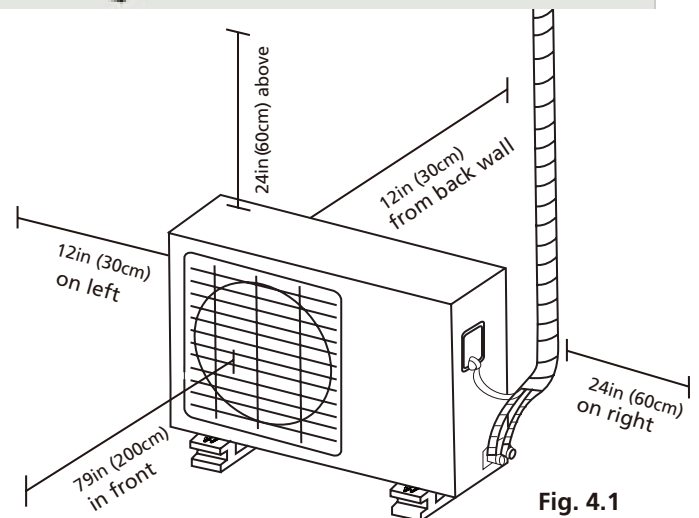

Fig. 4.1
- ☑ Meet all spatial requirements shown in Installation Space Requirements (**Fig. 4.1**)